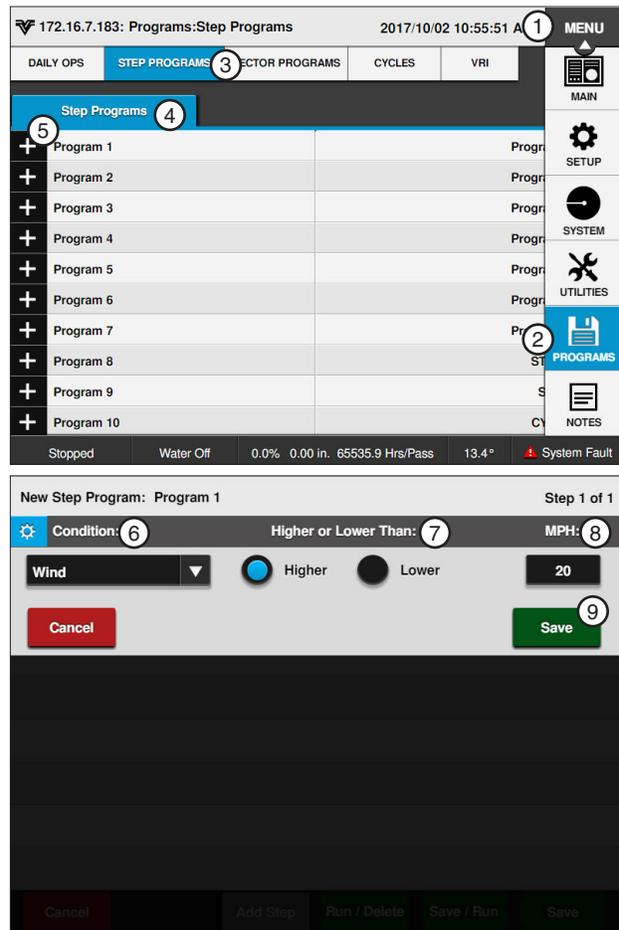

Figure 118-1 1. Menu
2. Push the **New Program** button corresponding to the preferred program number as shown in Figure 118-1.